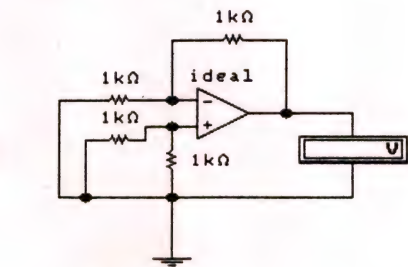

Fig. 5.17 Differential amplifier circuit (Assignment 5.1).
- Finally, remove both batteries and connect both inputs to common (0V) as shown in Fig. 5.17. Record the output voltage in this condition.